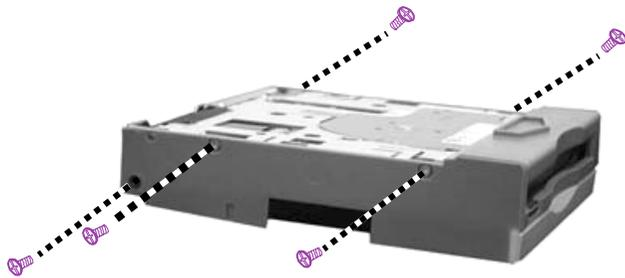

Figure 2-14
5. Remove five screws to separate the FDD module from plastic shield .(figure 2-14)